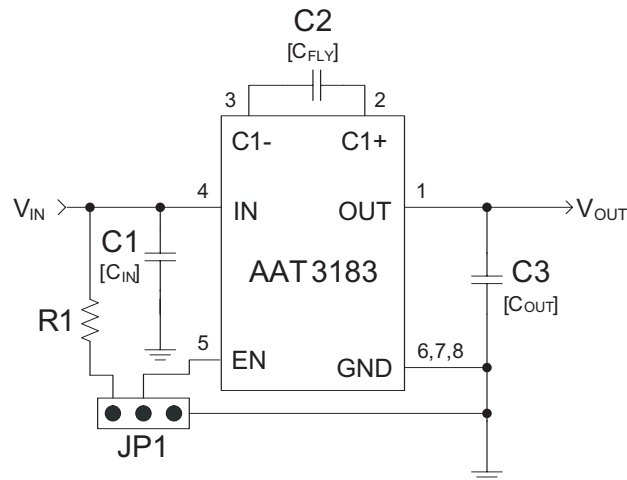

Figure 6: AAT3183 Evaluation Board Schematic.
3. A good example of an optimal layout for the AAT3183 is the AAT3183 evaluation board shown in Figures 4 and 5. The evaluation board schematic is shown in Figure 6.